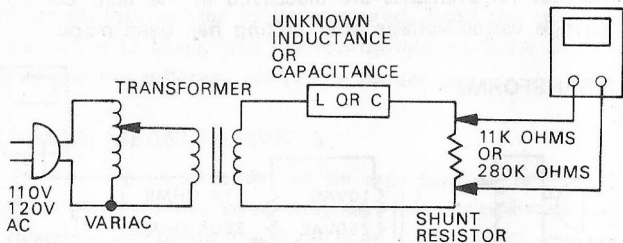

FIGURE 3
2. Connect the unknown inductor (drawn as a rectangular box marked L OR C) as shown in Figure 3. Note the voltage on the 10-volt scale. Use TABLE 1 to determine the inductance in the circuit from the voltage read on the meter. You can interpolate between values if the actual voltage read on the meter is not indicated on the table.
3. Connect the capacitor (drawn as a rectangular box marked L OR C) as shown in Figure 3. Note the voltage on the 10-volt scale. Use TABLE 2 to determine the capacitance in the circuit from the voltage read on the meter.
3. Connect the capacitor (drawn as a rectangular box marked L OR C) as shown in Figure 3. Note the voltage on the 250-volt scale. Use TABLE 3 to determine the capacitance in the circuit from the voltage read on the meter.